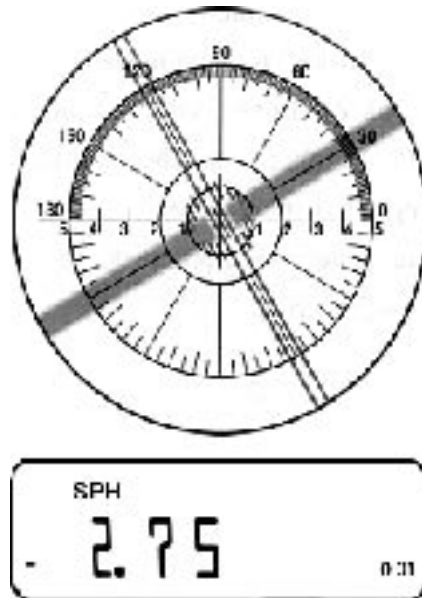

Fig. 11
- (1) Confirm the mode of spherical lens measurement.
- (2) Turn diopter measuring hand-wheel so that round dot drone is focused distinctly.
- (3) Lightly move lens to enable drone to be positioned at the center of eyepiece visual field.
- (4) Turn astigmatism turning hand-wheel so that two long green lines of round dot drone and cross-line drone are parallel.
- (5) Then finely regulate diopter measuring hand-wheel to obtain clearest focus of two long green lines of round dot drone and cross-line drone (Fig.11).